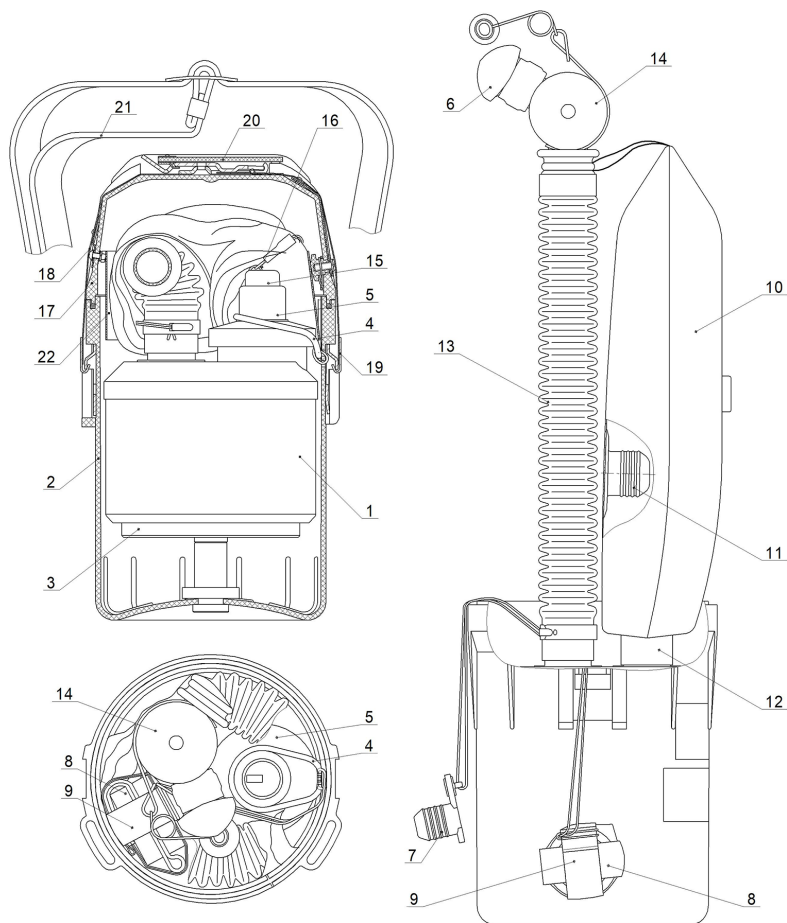
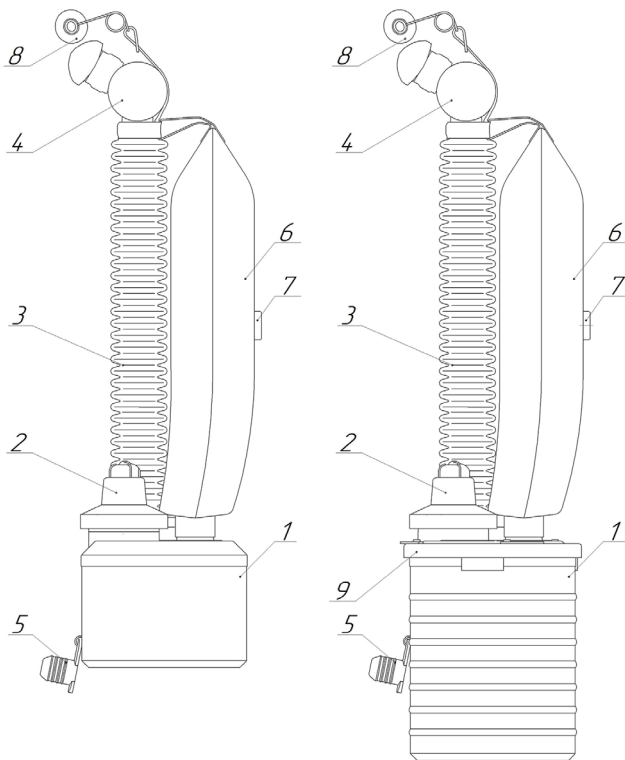

Fig. 2. General view and design of the TRAINER training self-rescuer
Fig. 3. General view of the disposable 15-/35- and 60-minute kits for practicing of breathing conditions
General view and design of the TRAINER training self-rescuer equipped with the imitating cartridge, as well as the view in the condition for use, are shown in Fig. 2, general view of the disposable kit for practicing of breathing conditions is shown in Fig. 3.
The training self-rescuer consists of the following main parts (Fig. 2): case 2 with insert 3, lid 17, imitating cartridge 1, air system (which includes breathing bag 10, breathing tube 13 with a quick-release flange for replacement of the HME-imitator 14 and mouthpiece 6) and goggles 8. Breathing bag 10 and breathing tube 13 are attached to the nozzles of the cartridge.
In the initial state, the air system is arranged under lid 17 (Fig. 2), which is pressed against case 2 by means of two coupling straps 18 and 19. They are hooked by brackets located on case 2 and form a quickopening lock on lid 17, which is protected by the installed cover plate 20. The training self-rescuer is designed for shoulder carrying using and is completed with belt 21 for this purpose.
When installing the regenerative cartridge 1 (Fig. 3) with reusable air system or a disposable kit for practicing of breathing conditions into the case, HME 4 is used. Quick-release flanges are installed at the points of connection of the breathing tube with cartridge and HME (on the reusable air system).
- when opening the lock (Fig. 2), formed by coupling straps 18 and 19 and the releasing lid 17, overcoming the force of the magnet, cover 15 is removed from the imitating starter 5. The lock opening force and the force of magnet separation from the starter of the TRAINER training self-rescuer correspond to similar characteristics of self-rescuer 1PVM KS, ШСC-1П, SSS-1PV KS, thus ensuring development of practical donning skill;
- opening of the lock (Fig. 2), formed by coupling straps 18 and 19, and releasing of lid 17 (Fig. 2) automatically launches starter 2 (Fig. 3) and the breathing bag 6 is filled with oxygen, necessary for human breathing in the initial period. The force of lock opening and triggering force of the TRAINER training self-rescuer correspond to respective characteristics of self-rescuers 1PVM KS, ШСС-1П, SSS-1PV KS, thus ensuring training of donning skills;
- when the user starts using the training self-rescuer and takes a breath, the air flows through HME 4 (Fig. 3), breathing tube 3, regenerative cartridge 1 and enters the breathing bag 6. The regenerative cartridge is filled with an oxygen-containing substance (potassium superoxide KO_2), which absorbs carbon dioxide (CO_2) from the air exhaled by a human and releases oxygen (O_2). The excess air from the breathing bag 6 is removed to the atmosphere through the relief valve 7. During inhalation, the air flows in the opposite direction and enters the human respiratory system enriched with oxygen. Breathing in the TRAINER training self-rescuer, equipped with a regenerative cartridge, fully reproduces the conditions and ensures practicing the breathing skill in self-rescuers 1PVM KS, ШСС-1П, SSS-1PV KS;